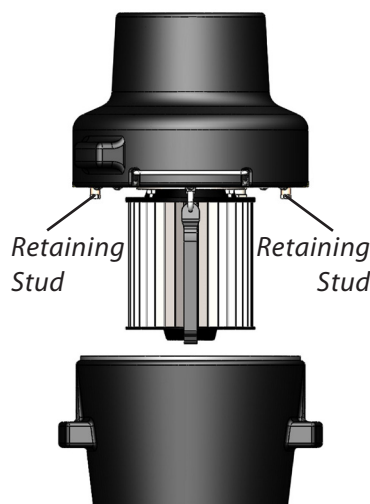
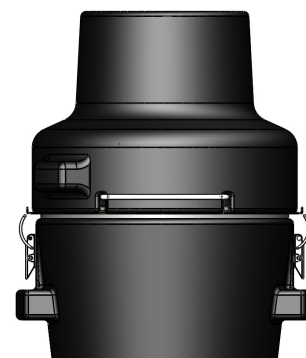

FIG. 12a
FIG. 12b
- 12** Align the two retaining studs on the bottom of the Motor Assembly (A) with the two notches on the Cone Assembly (B) [FIG 12a] and fasten these components together with Draw Latches (F24) on either side. [FIG 12b.]